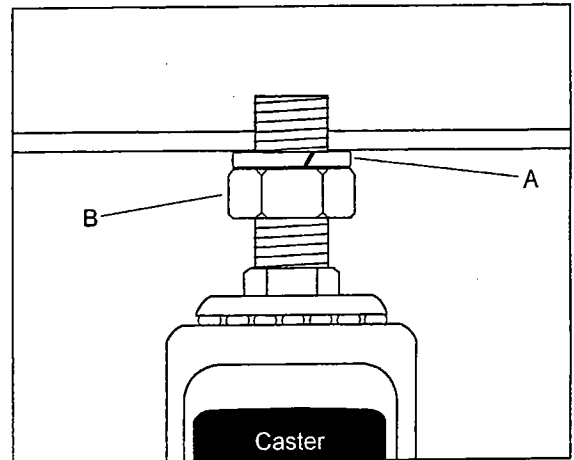

Fig. 1
1. Install four casters to the under side as pictured in Fig. 1. Thread the hex nut (B, Fig. 1) onto the caster shaft. Then slide the lock washer (A, Fig. 1) over the caster shaft. Thread the caster shaft into the threaded hole on the underside of the base, turn until snug. Tighten the nut (B, Fig. 1) with a wrench. This will give the caster proper clearance.